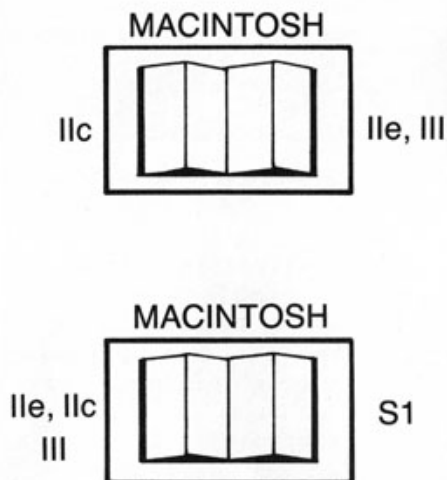

Figure 2-19. Rocker Switch Settings (Macintosh)
6. Set the rocker switches on the back of the QC hard disk so that both are in the center Macintosh position as illustrated in Figure 2-19.